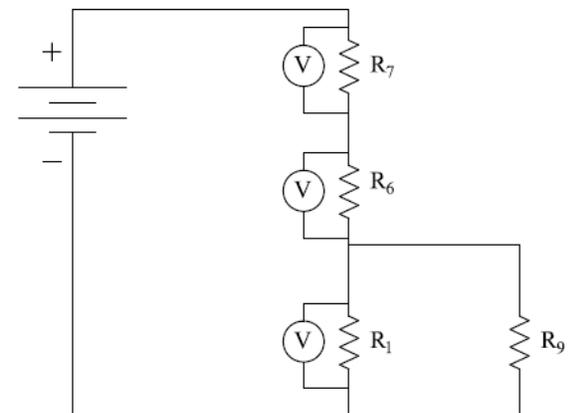

Fig.2b: Lab. Circuit for 2^{ed} Kirchhoff law
1. Construct the circuit shown in Fig. 2b, and adjust the power supply voltage at (15V)
2. Measure the voltage across each resistor, take in consideration the polarity across each resistor. Record your measured result in the Third column of table (1). Determine the sum of these measured voltages. In